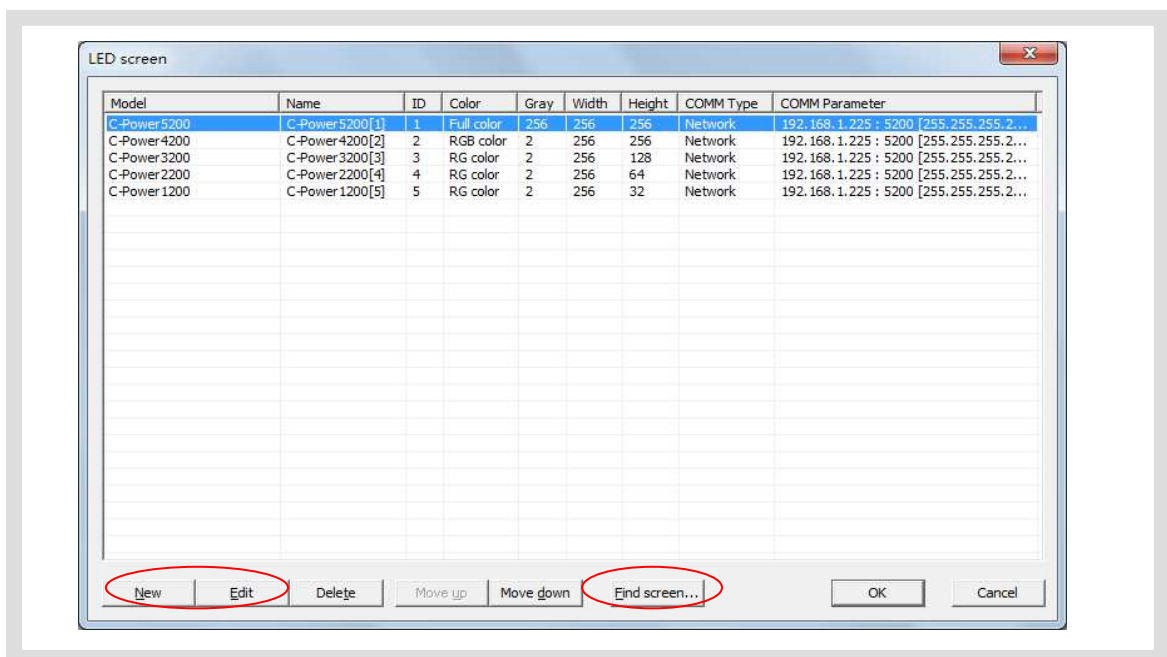

Figure3 LED screen list
- 2) In the LED screen list dialog box (Figure3), click “New” button to establish or click “Edit” to change the screen parameters.